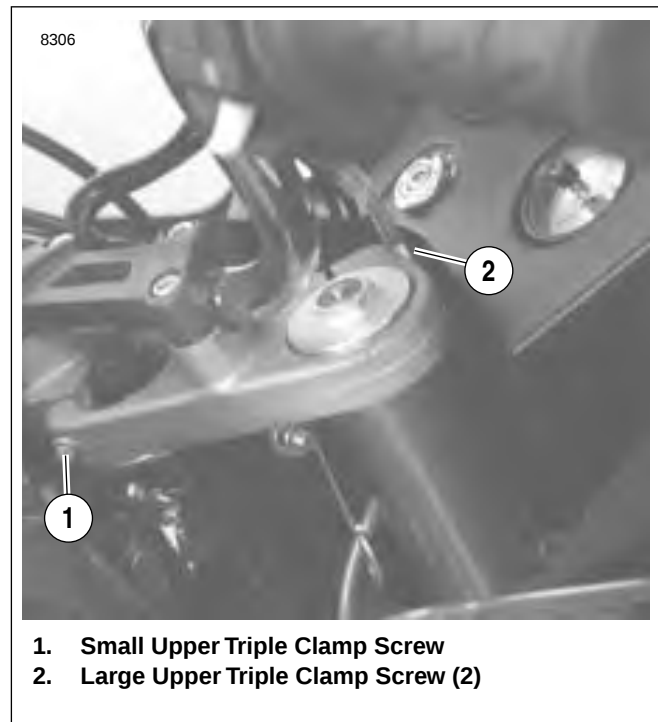

Figure 2-55. Front Fork
2. See Figure 2-55. Spread LOCTITE ANTI-SEIZE on the last three threads of all five triple clamp pinch screws. Loosely install triple clamp fasteners. If removed, small screw (1) installs at rear of upper triple clamp.